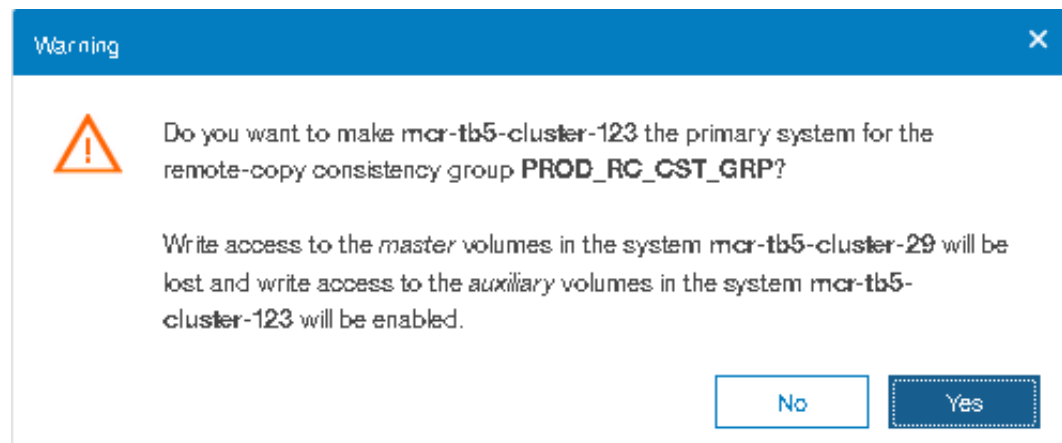

Figure 10-142 Warning window before switching the relationship
- The warning window that is shown in Figure 10-142 opens. A confirmation is needed to switch the Consistency Group direction. In the example that is shown in here, the Consistency Group is switched from the master group to the auxiliary group. Click **Yes**.